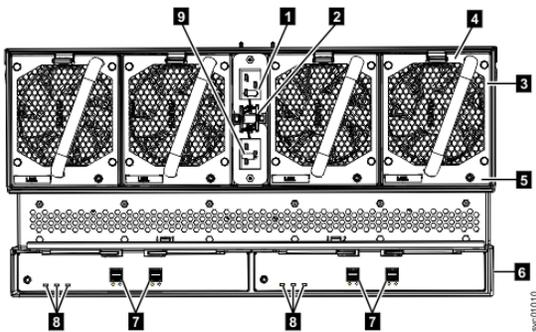
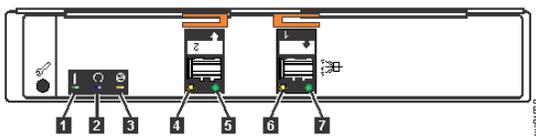

Figure 196. LEDs on the back of the expansion enclosure
Figure 197. LEDs on the back of the expansion canister
Table 78 on page 245 explains the function and status that is indicated by each of the LEDs. The power cords for each PSU are accessible from the rear of the expansion enclosure (1), as shown in Figure 196 on page 247.
Figure 196 on page 247 shows the rear view of a expansion enclosure. LEDs on the rear of the enclosure provide information about each fan module, each expansion canister, and SAS links.
The expansion enclosure has four fans. Each fan has one LED; for example, Figure 196 on page 247 shows the location of the LED (5) for fan number four. When a fan is operating normally, the LED is not lit. If a fault is detected, the amber LED is lit.
As Figure 196 on page 247 also shows, the expansion enclosure contains two expansion canisters. Each expansion canister contains its own set of LEDs, as shown in Figure 197 on page 247. The LEDs provide status information about the expansion canister itself and the SAS connections.